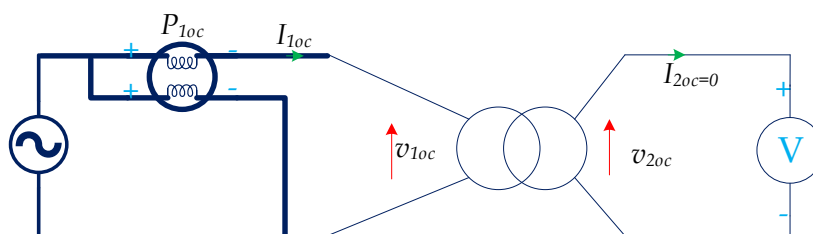

Fig. 8 Open-circuit test
The method is to apply **rated voltage v_{1n}** to the primary side with letting the secondary side open-circuited as shown in Fig. 8.
1. Set the circuit as it is shown in Fig. 8.